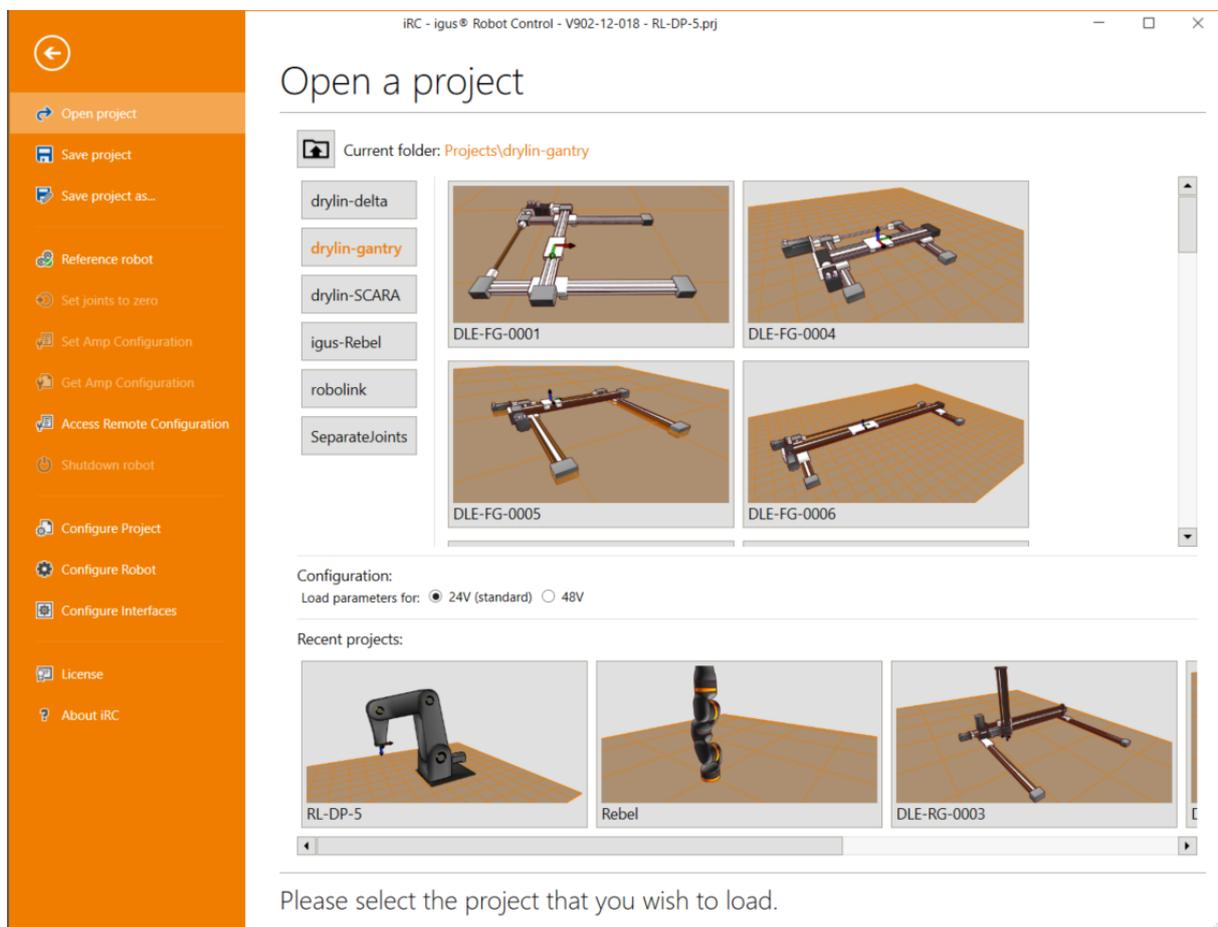

Figure 14: Selection of the robot type via the menu item "File" → "Open Project"
The real robot can be controlled in the same way as the simulated one, only the hardware must first be connected and activated by clicking the "Connect", "Reset" and "Activate" icons in the "Physical Robot" button group in the "Motion" tab (see Fig. 14). After that, the robot must be referenced.
2. Press the buttons "Connect", "Reset" and "Activate" (see fig. 14).
3. Click the "Reference" button (Fig. 14) in the button group "Physical Robot" in the "Motion" tab (or "Robot Reference" in the "File" tab) to open the referencing window.